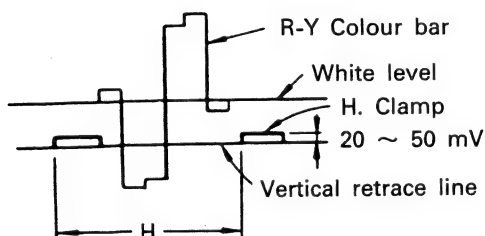

Figure 4.
6. Adjust LM03 so that the white level in picture part reaches to the vertical retrace line. (See figure 4.)